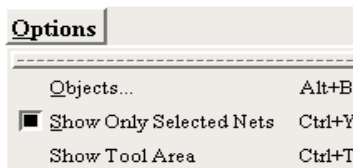

Figure 3-10. Options Window
2. **Choose Show Only Selected Nets command from the Options menu in the Viewer, as shown in Figure 3-10.** The Viewer displays only the selected nets in the Layout area until the Show Only Selected Nets command is un-selected.